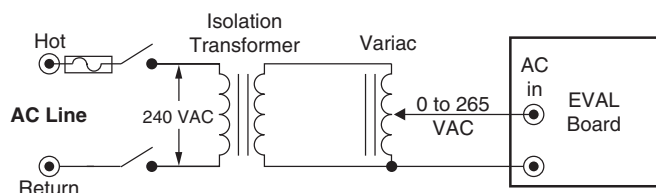

Figure 1. Variable Isolated AC Supply
2. Connect an isolation transformer to the input of a variable autotransformer, such as a Variac. For testing universal input conditions use a 0 to 240 Volt output autotransformer with a 1:1 isolation transformer as shown in Figure 1.
Using an adjustable AC source similar to the source described in Test Procedure step 2 (Figure 1) allows measurement of the Evaluation Board's performance across the full input voltage range.